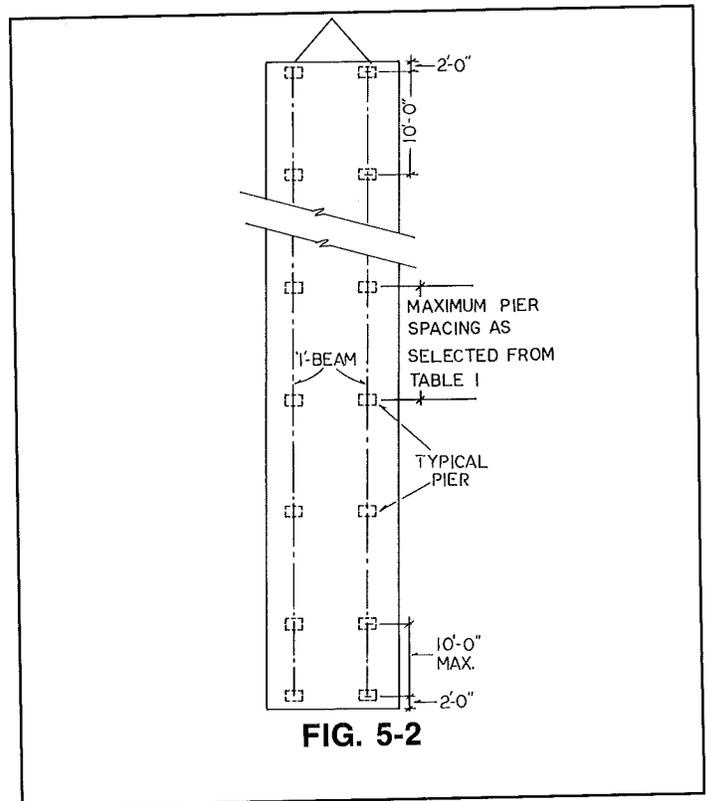

FIG. 5-2
5. Place the remaining pier supports under the main "I"-beam on each side taking care to maintain a maximum distance of no more than the spacing determined from Tables 1 or 2 with piers located with 2'-0" of each end of each "I" beam. (See Figs. 5-2)